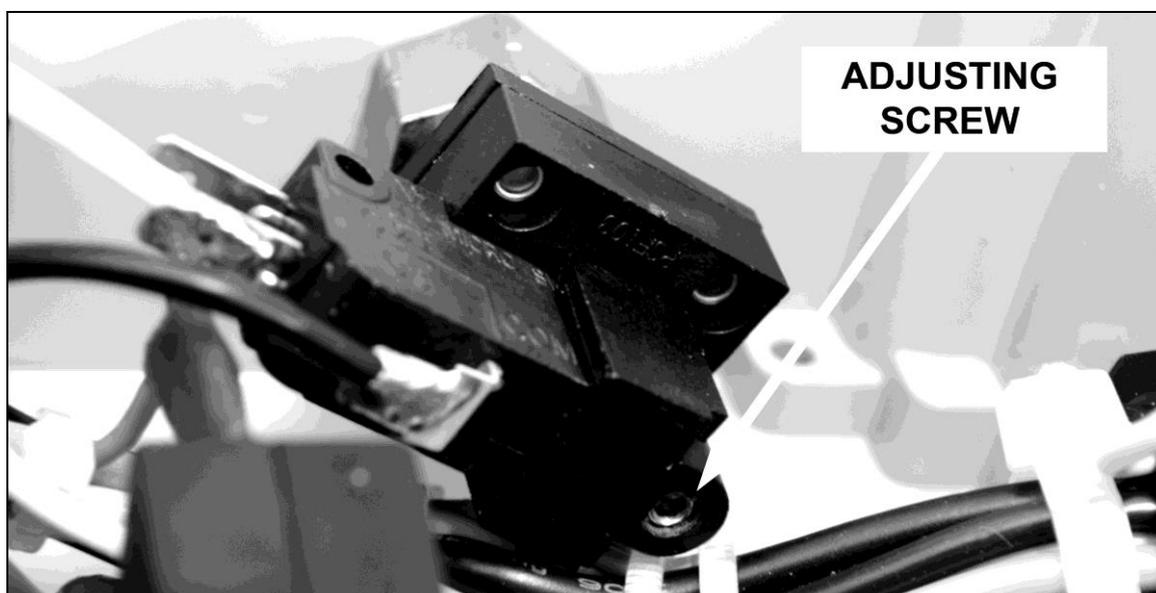

Fig. 10 – Air Pressure Switch in Junction Box
4. Locate the pressure switch in the junction box – see Fig. 10. Using a 2 mm hexagon (Allen) key rotate the adjusting screw until the **Air** indicator on the control box is just extinguished. Turning the screw anti-clockwise will cause the indicator to illuminate and turning it clockwise will cause it to extinguish.
7. Rotate the adjusting screw anti-clockwise by half the amount noted in step (6).